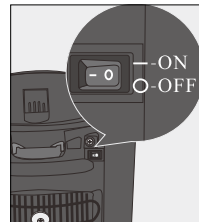

Figure 8
4. Ensure that the hot water switch near the top of the rear panel is turned off. (Figure 8).